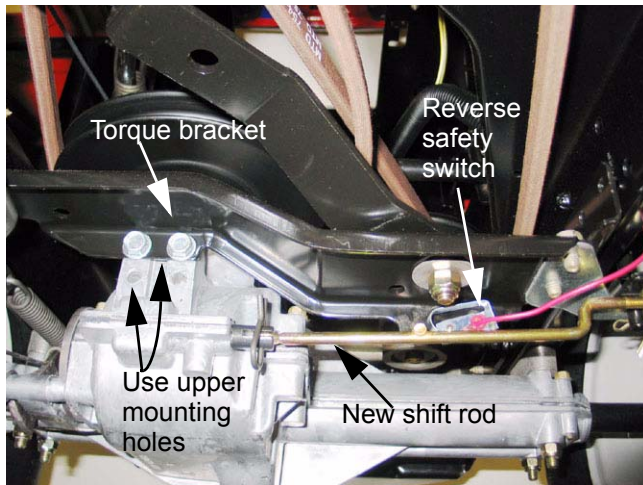

Figure 3.4
- 3.4. The new transaxle also uses a different torque bracket. See Figure 3.4.